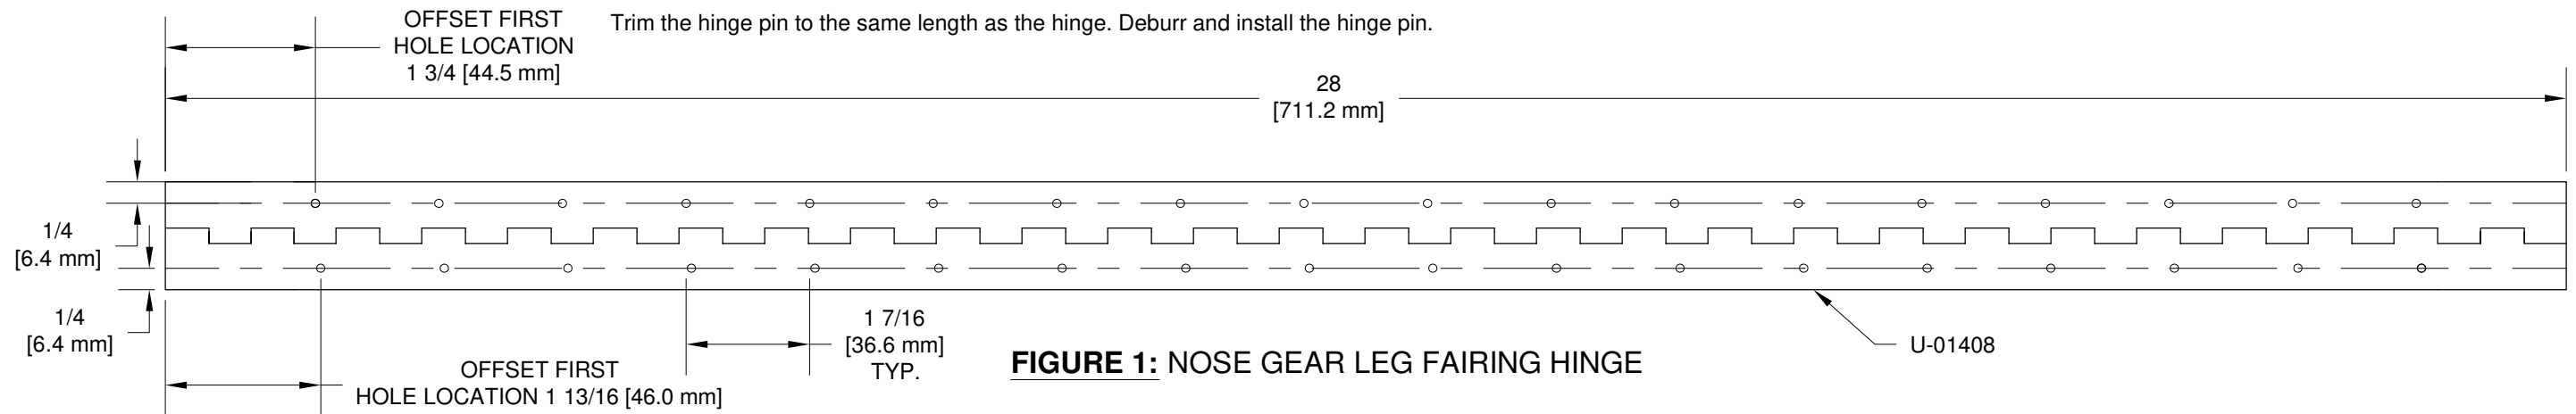

FIGURE 1: NOSE GEAR LEG FAIRING HINGE
Step 2: Draw a rivet centerline the full length of the outside of both halves of the hinge as per the dimensions shown in Figure 1. Mark, but do not drill the hole locations shown in Figure 1.